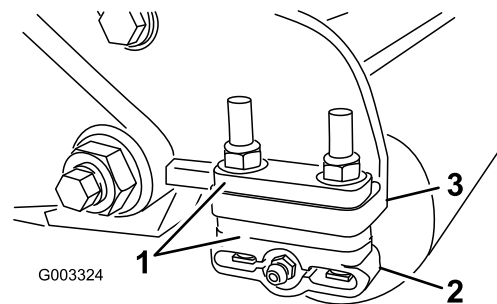

Figure 19
1. Adjust the rear roller brackets (Figure 19) to the desired height of cut range by positioning the required amount of spacers below the side plate mounting flange (Figure 19) per the HOC Chart.